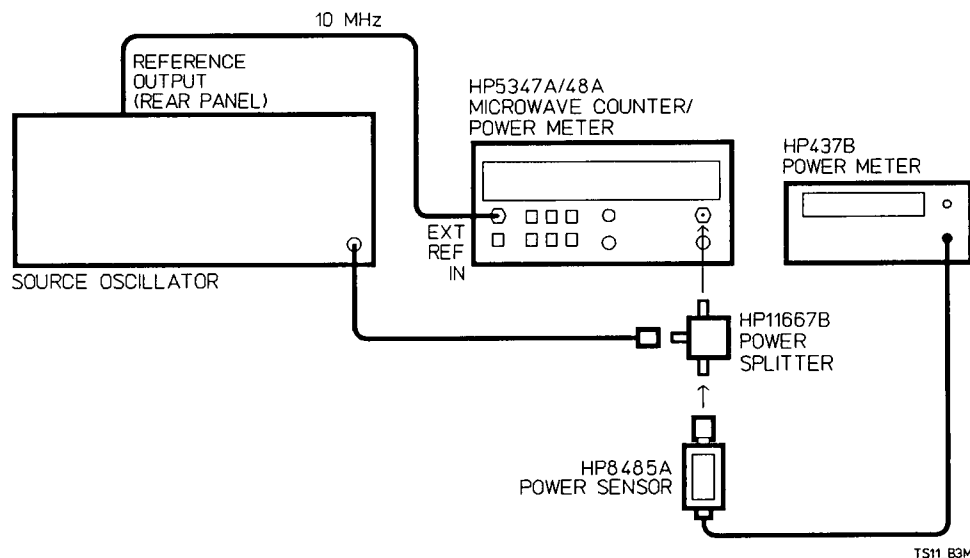

Figure 4-5. INPUT 2, 50 MHz-525 MHz Test Setup
**Description:** This test is in two parts to check both the high frequency measuring capability of the 50  $\Omega$  input impedance and the low frequency measuring capability of the 1 M  $\Omega$  input impedance of INPUT 2. In Part I, the HP 5347A/48A is set to the 10 MHz-525 MHz range, 50 $\Omega$  impedance, and a 25 mV rms (-19.3 dBm) signal is applied to INPUT 2. The source oscillator is set to selected frequencies and the HP 5347A/48A is checked for proper counting. Next, the HP 5347A/48A 1M $\Omega$  impedance for the lower frequency range is checked. Since the same test setup in *Figure 4-5* with the addition of a 50 $\Omega$  feedthrough is used to perform the 80 MHz check, the 80 MHz check is performed before the 10Hz-50MHz check. A 25 mV rms (-19.3 dBm) 80 MHz signal is applied to INPUT 2 through a 50 $\Omega$  feedthrough, and the HP 5347A/48A is checked for proper counting. In Part II, the test setup is changed to *Figure 4-6* to test the 10 Hz-50 MHz range.
1. Connect the equipment as shown in *Figure 4-5*.
1. Using the test setup in *Figure 4-5*, connect the HP 11667B to INPUT 2 of the HP 5347A /48A via a 50 $\Omega$  feedthrough (HP 10100C).